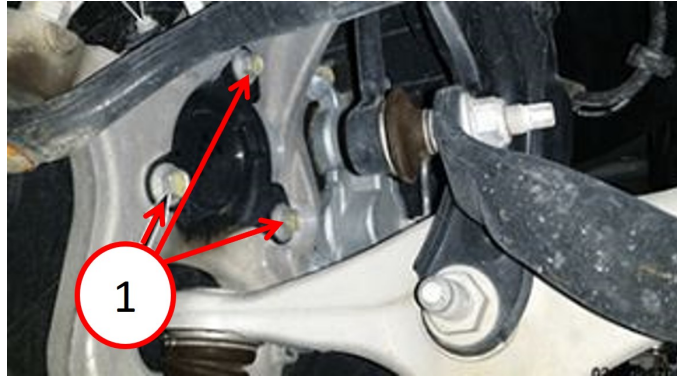

Fig. 1
3. Tighten the front three hub bearing mounting bolts (Fig. 1) to 100 N·m (74 ft. lbs.). **Repeat this step for the other side of the vehicle.**